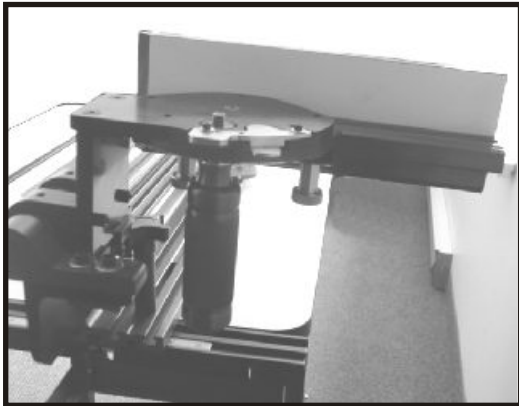

FIG. 18
16. If your gauge is not zeroed roll the miter gauge assembly up over the guide shaft (Fig. 18). There are machined recesses along the top edge of the mounting bracket for the miter gauge to rest in an upside down position when not in use.